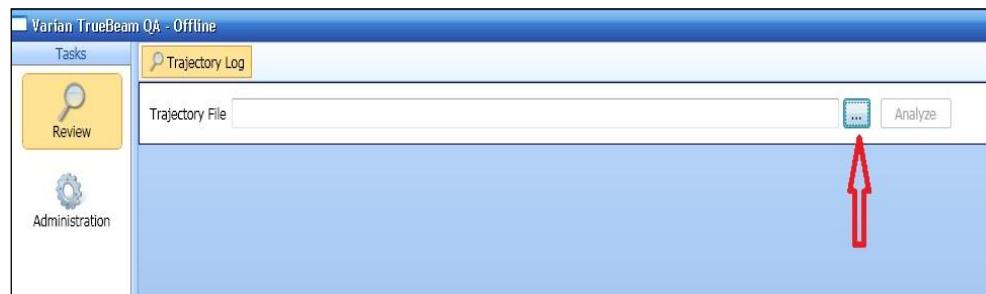

Figure 59: Offline QA Review Screen
4. Click on the "browse" icon. See Figure 59.